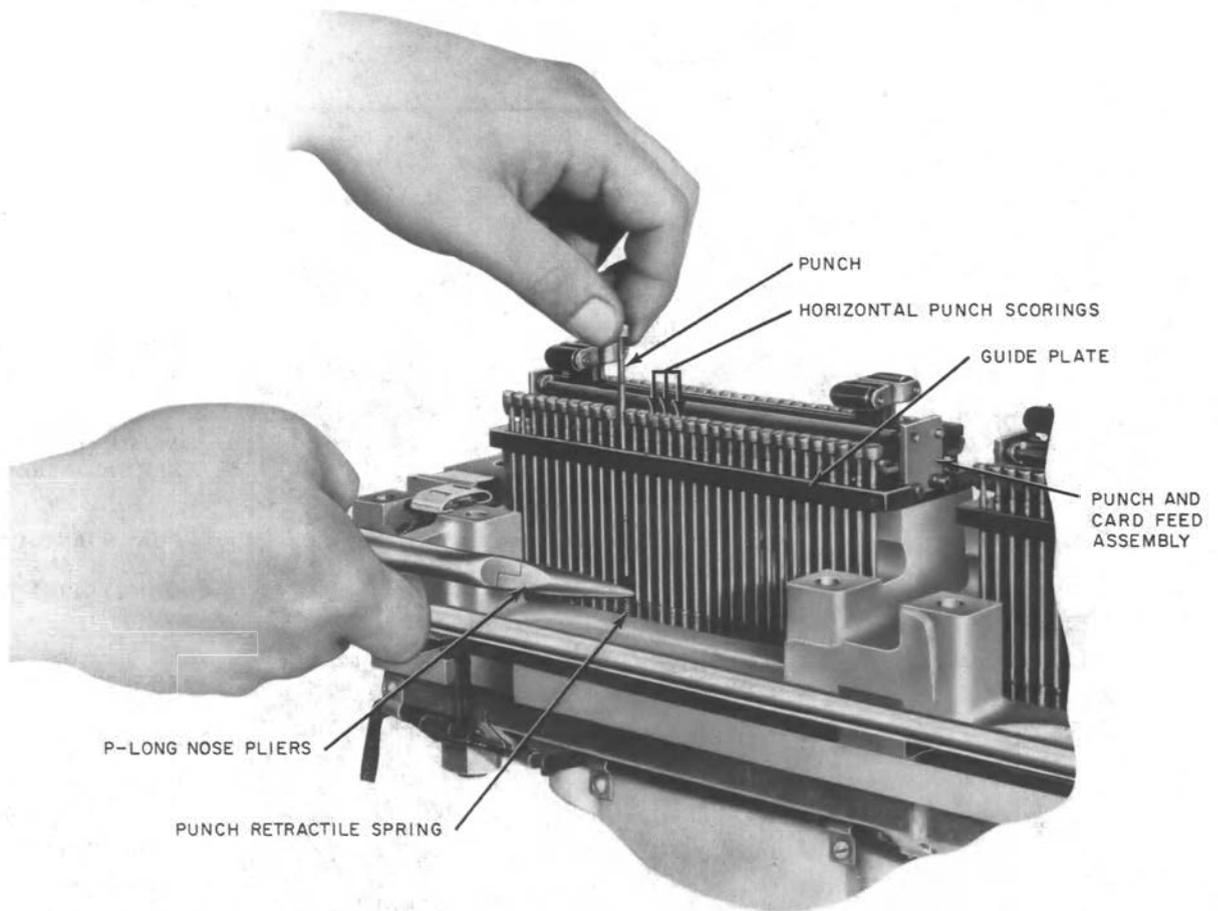

Fig. 45—Punch and Card Feed Assembly (Removing Punch)
3.48 Punch: To replace a punch (Fig. 45), proceed as follows.
- (1) Remove the punch and card feed assembly in accordance with 3.46.
- (2) Remove the lower and upper retaining rings in accordance with 3.47.
- (3) While holding the punch retractile spring using the P long-nose pliers as shown in Fig. 45, remove the punch.
- (4) Hold the retractile spring in position using the pliers.
- (5) Insert the replacement punch through the guide plate hole and through the retractile spring, and then into the stripper plate hole.
- (6) Remount the lower and upper retaining rings in accordance with 3.47.
- (7) Depress and release the punch several times using the KS-6320 orange stick to check the freedom of operation of the punch.
- (8) If the punch sticks, remove the upper retaining ring.
- (9) Raise the punch sufficiently to turn the punch through 180 degrees.
- (10) Repeat (7).
- (11) Remount the punch and card feed assembly in accordance with 3.46.
- (2) Remove the upper punch retaining ring in accordance with 3.47.
- (3) While lightly holding the retractile spring using the P long-nose pliers as shown in Fig. 45, manually raise the punch until there is sufficient clearance to remove the spring.
- (4) Remove the spring.
- (5) Mount the replacement spring using the pliers by lowering the punch so that it passes through the spring and then into the stripper plate hole.
- (6) Remount the upper retaining ring in accordance with 3.47.
- (7) Check the freedom of movement of the punch by depressing and releasing the punch several times using the KS-6320 orange stick.